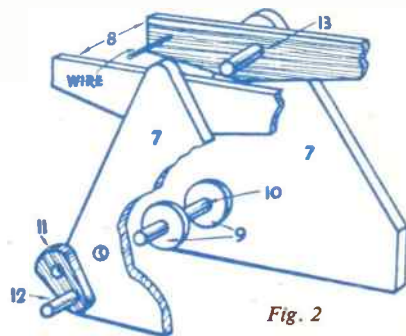

Fig. 2
This is shown in Fig. 2. The two arms (8) are glued in the positions shown by dotted lines on the design sheet to the insides of pieces 7. The winding gear consists of a piece of $\frac{1}{4}$ in. dowel (10) to which are glued two spacing discs (pieces 9) the positions of which are shown on the design sheet.
Make up the winding handle from pieces 11 and 12, and add to the winding spindle (see Fig. 2).